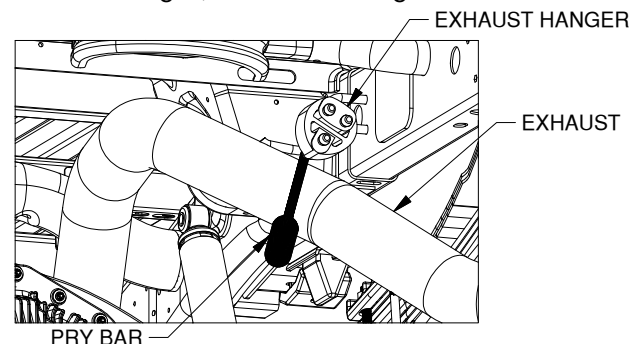

Figure A4: Looking under truck bed towards cab
- Disconnect the exhaust hanger:** Locate the exhaust hanger in the rear passenger portion of the truck, see figure A4. Disconnect the exhaust from the hanger to provide improved mounting access to the center section. It is recommended that a pry bar be used to aid in disconnecting the exhaust hanger, as shown in figure A4.